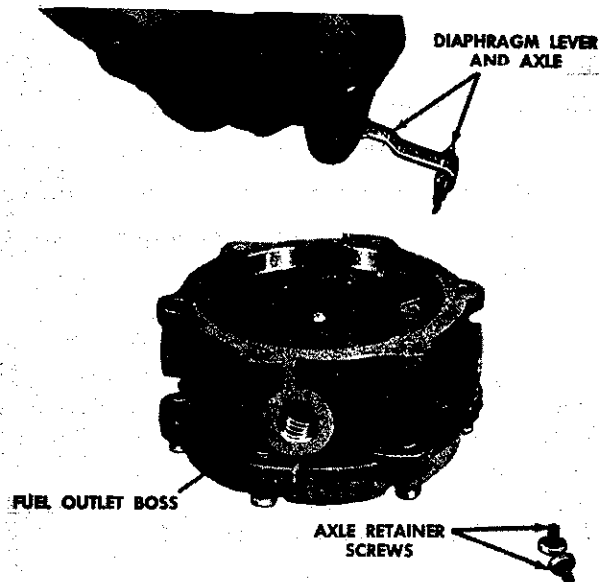
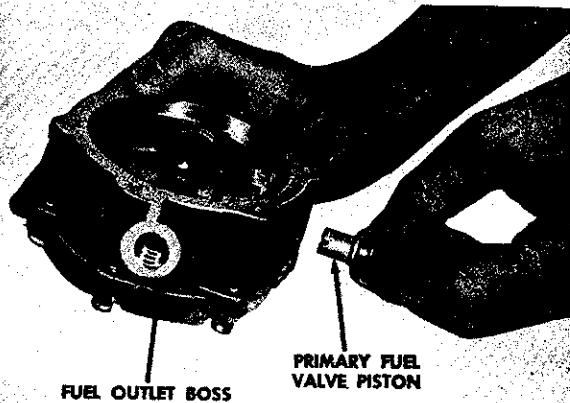
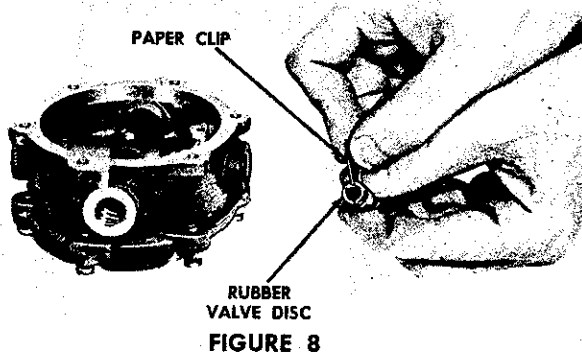

FIGURE 6
FIGURE 7
FIGURE 8
6. Remove the primary diaphragm lever, Figure 6, by taking out the two axle retaining screws and lifting out the lever and axle. Tilt the casting and primary fuel valve piston will fall out, Figure 7. Use a paper clip or similar tool and remove the rubber valve disc. Figure 8.
9. Remove the diaphragm lever and valve piston assembly by following procedure outlined in step No. 6, Figure 6 and 7.